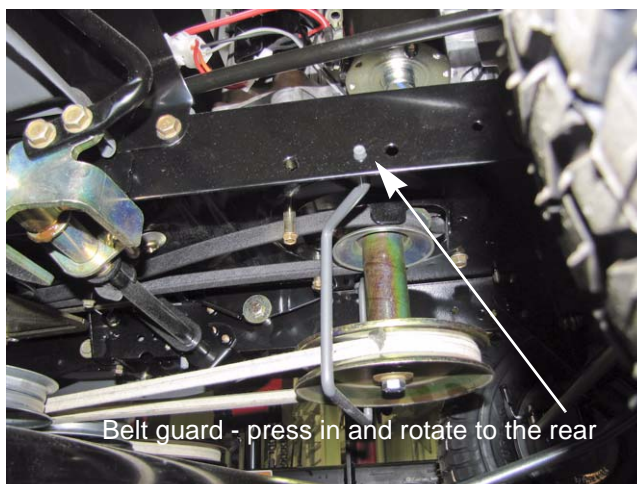

Figure 8.3
- 3c. Press inward on the belt guard where it passes through the hole in the right side of the frame and rotate it towards the rear of the tractor. See Figure 8.3.